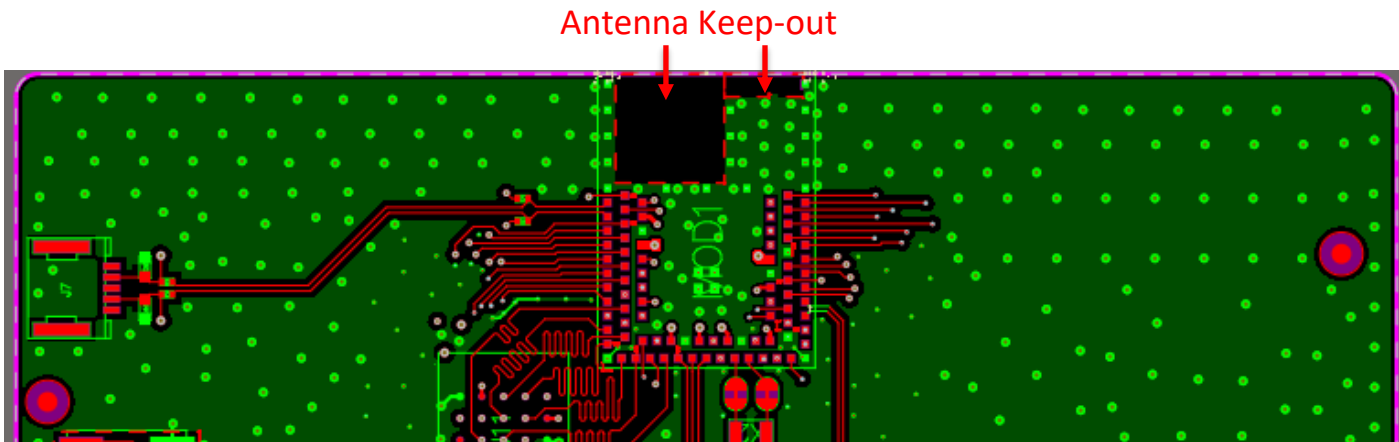

Figure 8: Chip Antenna keep-out area (shown in red), corner of the BL54H20 development board for the 453-00197 module.
- The BL54H20 development board (453-00197-K1) has the 453-00197 module on the edge of the board (not in the corner). The antenna keep-out area is defined by the BL54H20 development board which was used for module development and antenna performance evaluation is shown in **Figure 8**, where the antenna keep-out area is 5mm wide, 5mm long; with PCB dielectric (no copper) height 1.6mm sitting under the 453-00197 chip antenna. There is an extra copper cutout of 3.631mm x 1.046mm under 453-00197 chip antenna RF matching circuit.
Figure 8 shows an example.